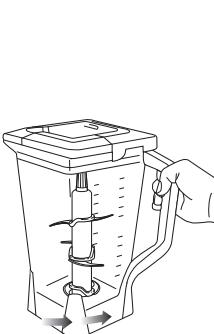

Fig. 9
- 14 Turn the pitcher counter clockwise to remove and then lift off the base. (**Fig. 9**)